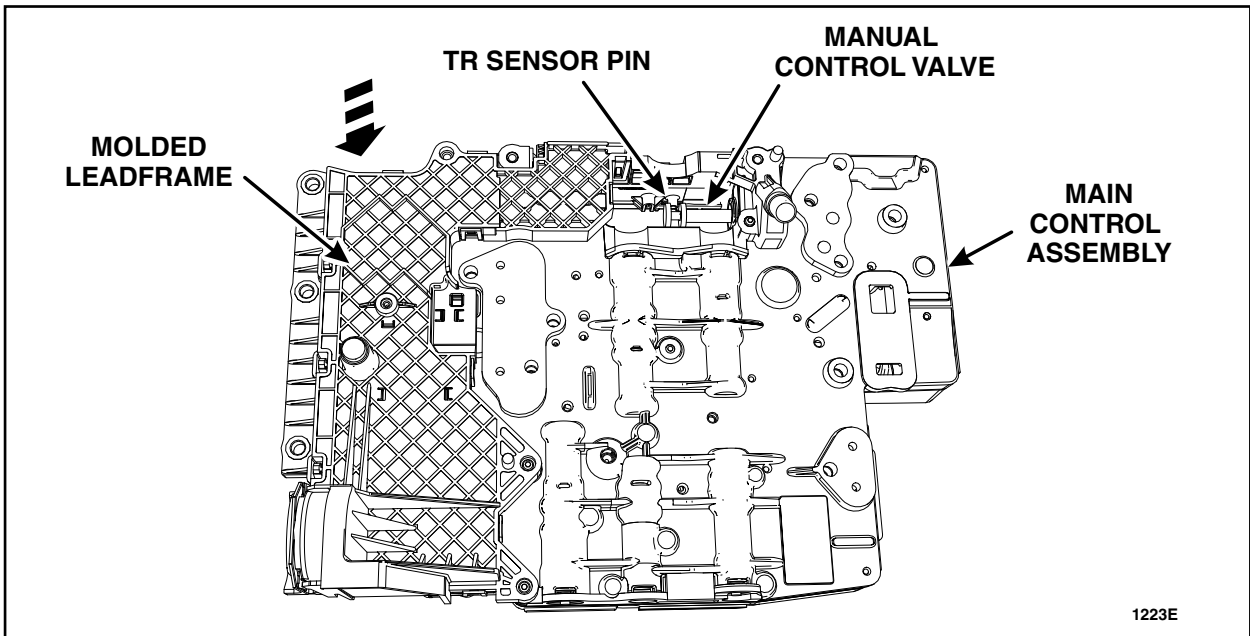

FIGURE 3
5. Install the *new* molded leadframe on the main control assembly. See Figure 3.